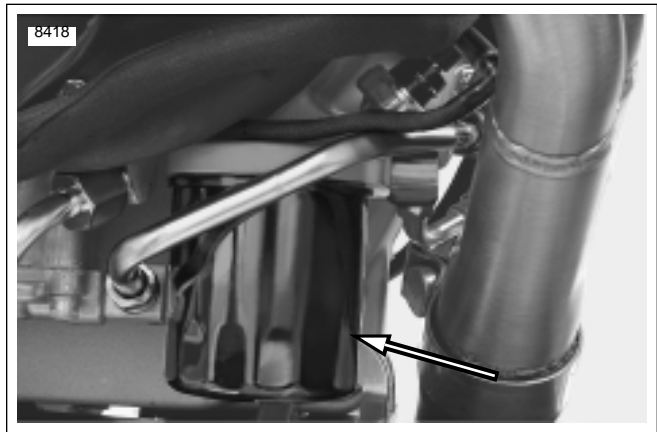

Figure 1-7. Oil Filter
2. See Figure 1-7. Remove oil filter using pliers or belt type OIL FILTER WRENCH.